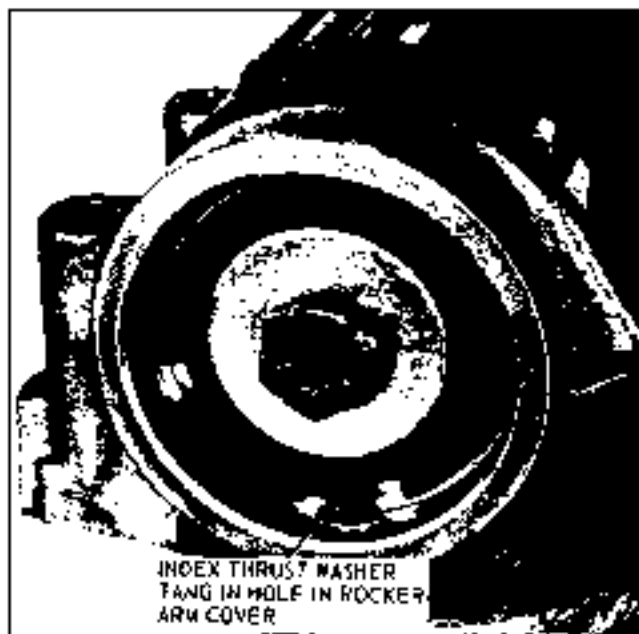

Fig. 6-16 Thrust Washer Installation
2. Install thrust washer in rocker arm cover as shown (Fig. 6-16).